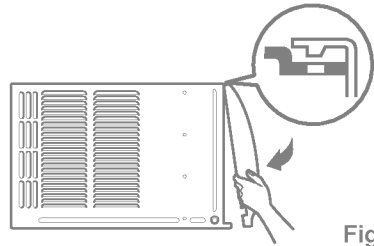

Fig. 10
- Attach the front grille to the cabinet by inserting the tabs on the grille into the tabs on the front of the cabinet. Push the grille in until it snaps into place. (See Fig. 10)